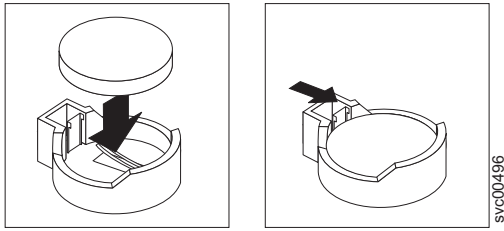

Figure 143. Installing the SAN Volume Controller 2145-8A4 CMOS battery
- c. Press the battery down into the socket, as shown in Figure 143 on page 152, until it clicks into place. Make sure that the battery clip holds the battery securely.